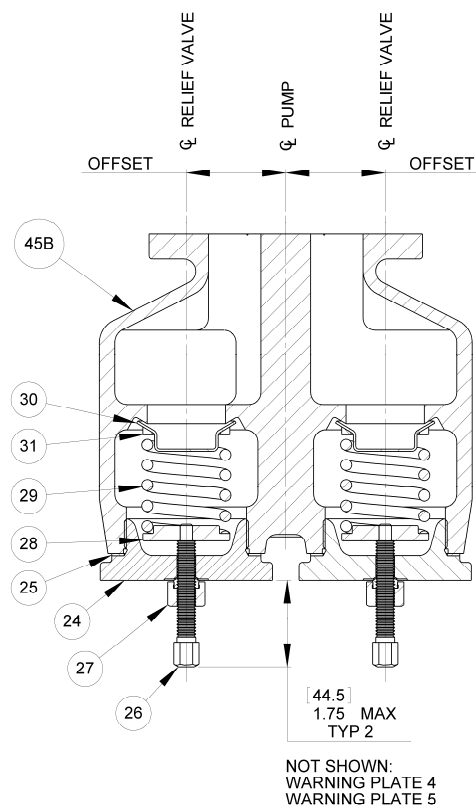

Figure 6.4
Refer to the sectional drawing shown in Figure 6.4
2. Loosen the locknut (27) on the adjusting screw (26).
3. Back the adjusting screw (26) out to point where end of adjusting screw will be 1-3/4 inches [44.5 mm] from plug cap (24). See drawings shown in Figures 6.4.
6. Tighten the locknut (27).